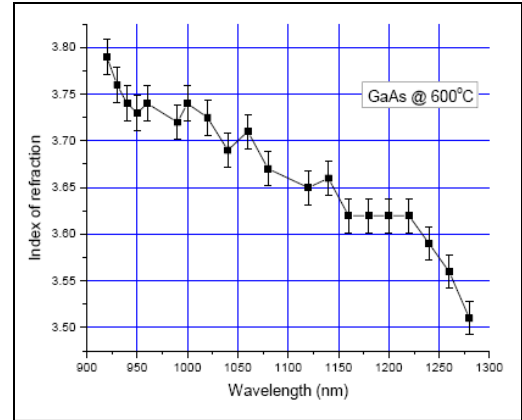

Figure 4:
After zooming in on an individual process, such as shown in Figure 4, one can determine that layer's growth rate by using BandiT's Pyrometric Growth Rate analysis. This analysis performs a frequency analysis on the oscillations and extracts the resultant deposition rate using the equation above. Figure 5 shows the final output, displaying frequency (both peak and weighted) found via Fourier transform power spectrum, calculated growth rate (G), and inputted index of refraction (η).